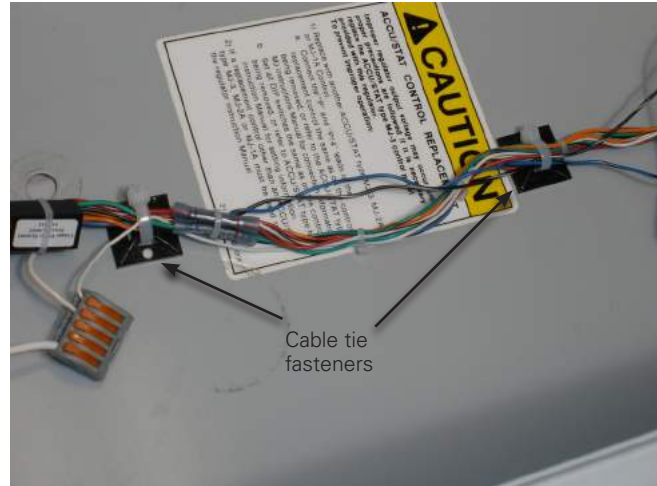

Figure 39. Secured QCA harness assembly.
- Secure the QCA wires inside the Siemens/Howard control box by placing tie fasteners (Item 6) as needed and then fastening with cable ties as shown in Figure 39.